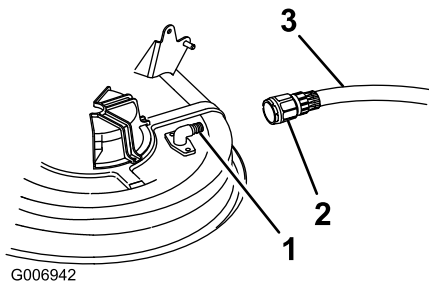

Figure 34
4. Attach the coupling (not included) to the mower washout fitting and turn the water on high (Figure 34).